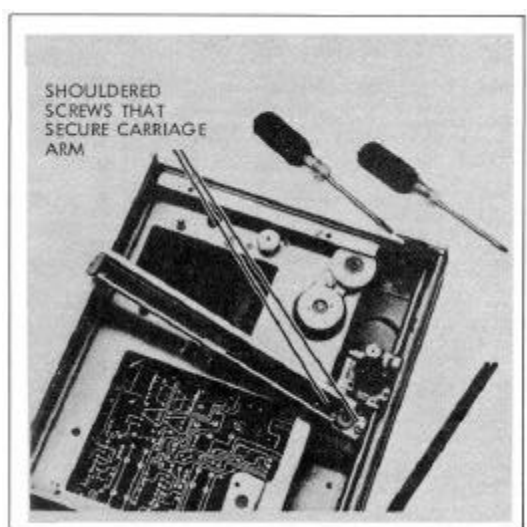

FIGURE 5-6. CARRIAGE ARM REMOVAL
d. Remove 2 shouldered screws at upper end holding pen carriage arm. Arm lifts off its motor block. See Figure 5-6. Do not damage wires connecting potentiometer to motor block. Slide arm toward rear, separating it from lower carriage track. Small wheel which rides in track is not retained and may fall off.